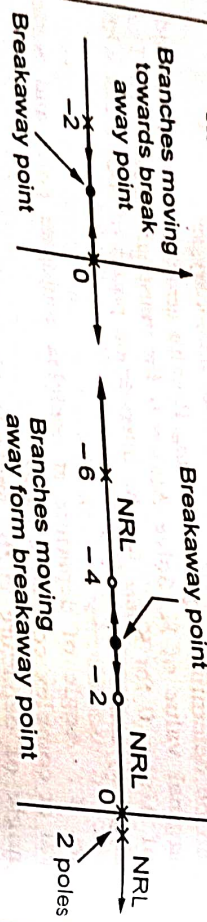

Fig. 3.1 (a) (b)
- If there are adjacently placed poles on the real axis and the real axis between them is a part of the root locus then there exists minimum one breakaway point in between adjacently placed poles. This is shown in the Fig. 3.1 (a).
- If there are two adjacently placed zeros on real axis and section of real axis in between them is a part of the root locus then there exists minimum one breakaway point in between adjacently placed zeros. This is shown in the Fig. 3.1 (b).